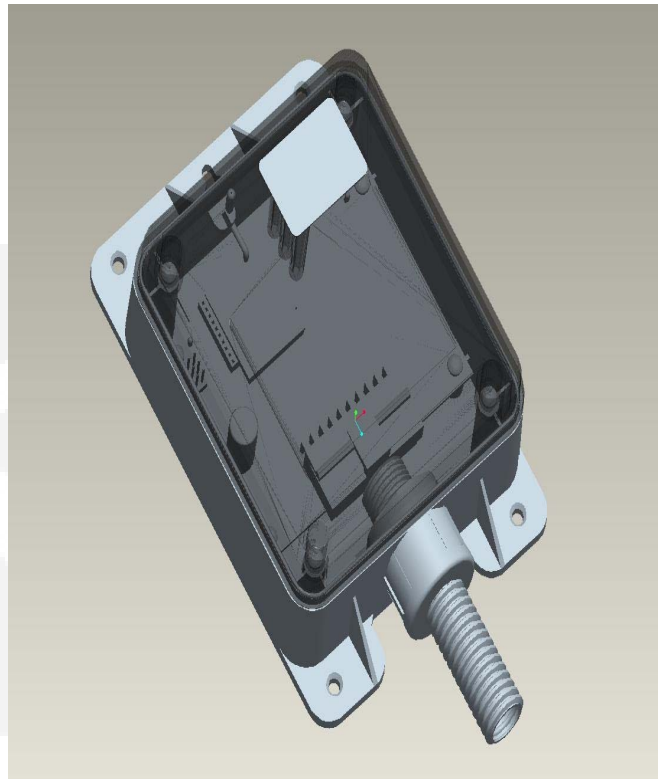

FIGURE 4-1. GENSET MODULE (INTERIOR)
4. Either drill holes as shown in Figure 4-1 or else attach the genset module to a smooth and dry surface using the included double-stick tape.